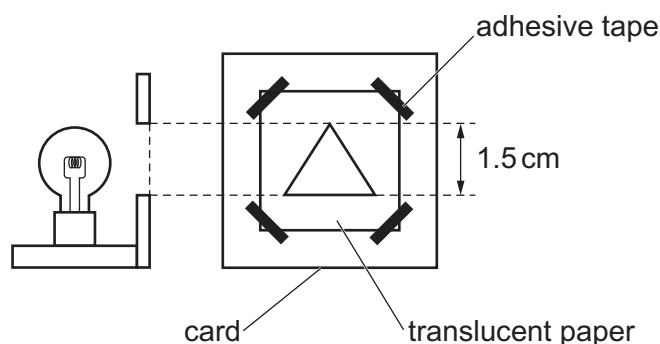

Fig. 2.1
- (iii) illuminated object consisting of rigid card with a triangular hole of height 1.5 cm (see Fig. 2.1). The hole is to be covered with a thin translucent paper (e.g. tracing paper) secured with adhesive tape